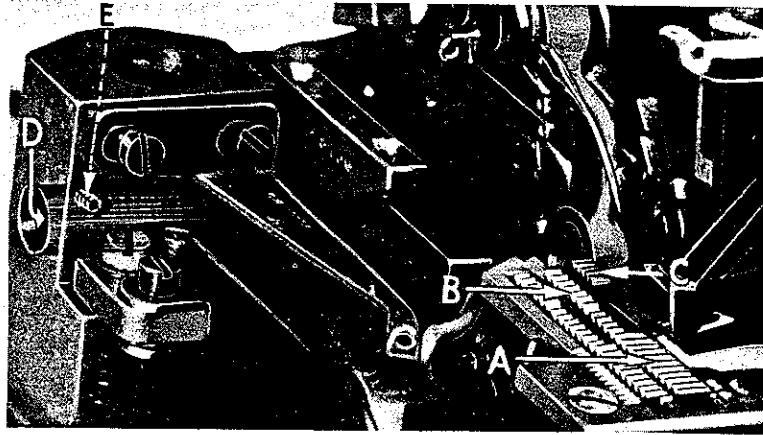

Fig. 12
On Style 39500 A set all three feed dogs (A, B, C, Fig. 12) so the top surfaces of teeth all lie in the same plane. This can be checked by sighting across teeth with a straight edge. Feed dogs should now be leveled with throat plate surface by rotating feed tilting adjusting pin (D). This pin raises or lowers the back end of both feed bars at the same time. The feed dogs should be set level at the time teeth first appear above the throat plate. Screw (E) locks feed tilting adjusting pin in place. Now set feed dogs so that teeth rise about 3/64 inch above throat plate.